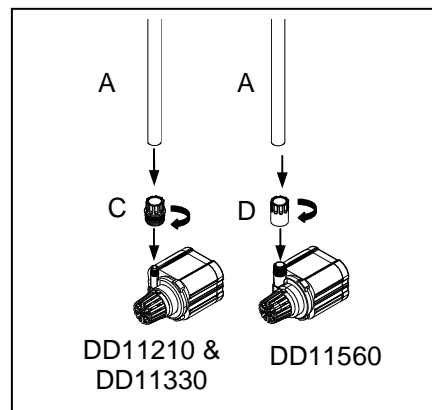

Fig. 6
6. For the DD11210 and DD11330 pumps, use the 1/2" adapter to connect the pump to the extension tubes. For the DD11560 pump, use the 3/4" adapter to connect the pump to the extension tubes. Fig. 6